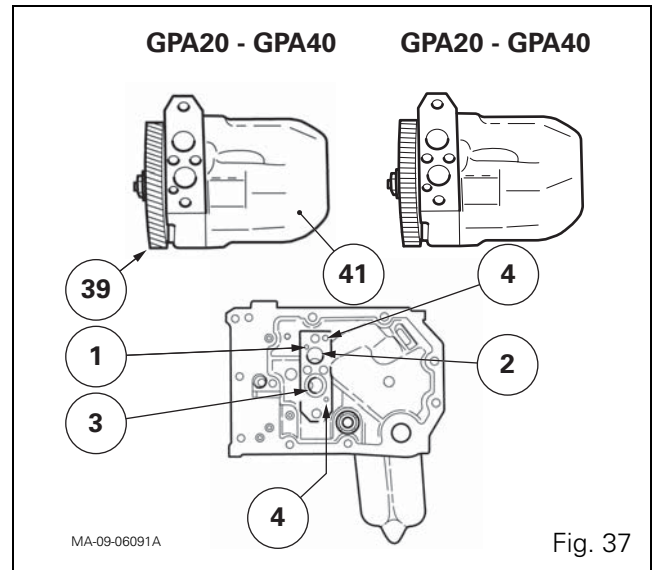

Fig. 37
47. Check the presence of dowels (4) (Fig. 37).
48. Replace the "O" rings (1) to (3) (Fig. 37).